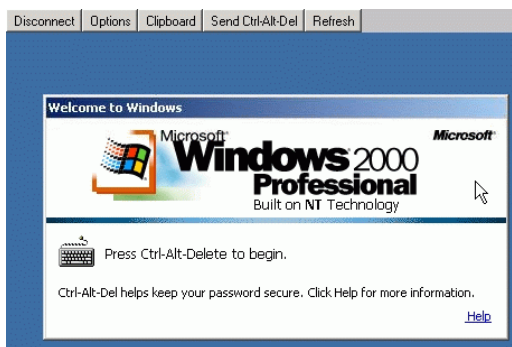

Figure 2-47 Welcome to Windows Dialog Box
3. Type the default password and click OK. The *Welcome to Windows* dialog box displays (Figure 2-47).